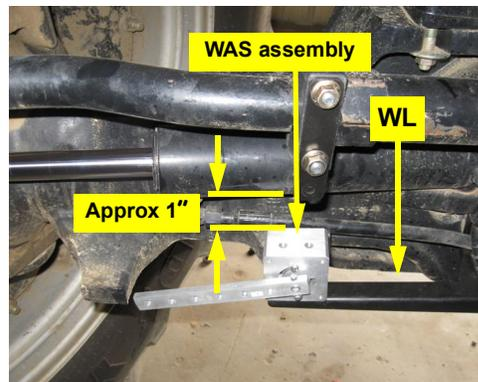

Figure 2d: Installed WAS assembly
- d. Attach the assembled WAS from steps 1a and 1b to bracket **WL** using hardware **WJ** (under the bracket, not shown) with the WAS connector facing the center of the machine. The top of the WAS assembly should be approximately 1" from the bottom of the steering cylinder (Figure 2d).